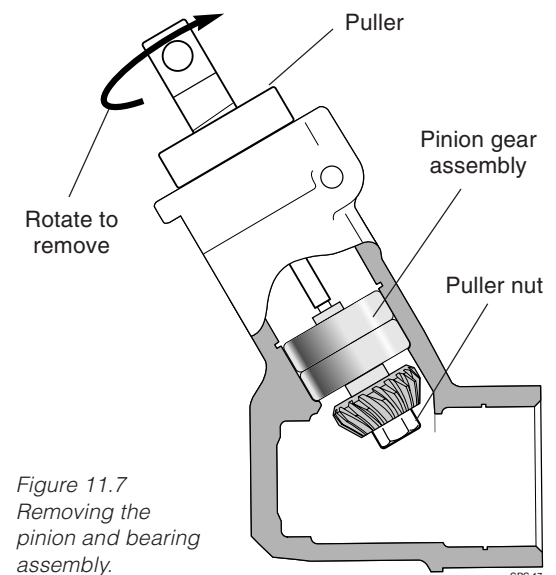

Figure 11.7 Removing the pinion and bearing assembly.
**STEP 3.** Assemble the puller to the gearcase and pinion (Figure 11.7), then rotate the puller bolt to remove the pinion and bearing assembly.